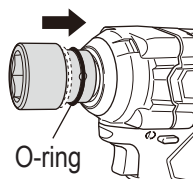
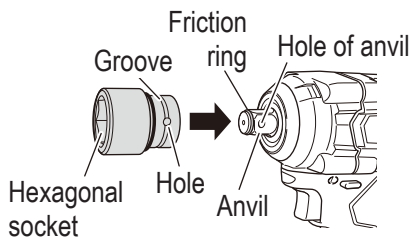

Fig. 11
Fig. 12
- (3) While making sure that the pin doesn't fall, attach the O-ring to the groove on the socket. (**Fig. 11, Fig. 12**)